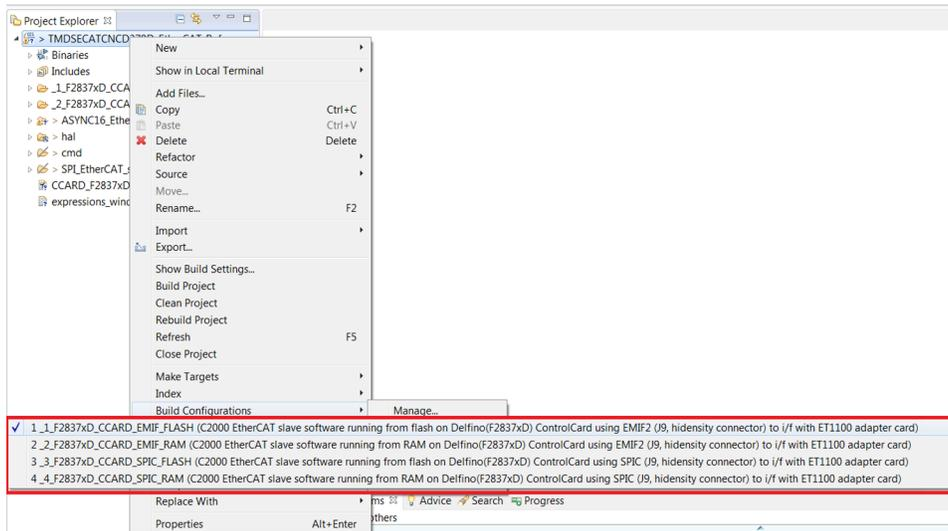

Figure 23. Select Build Configuration
- Right-click on the project and select the build configuration. Choose the build configuration matching the PDI configuration selected in SSC tool for C28x configuration and the SW1 switch setting on the TMDSECATCNC379D kit (see Figure 23).